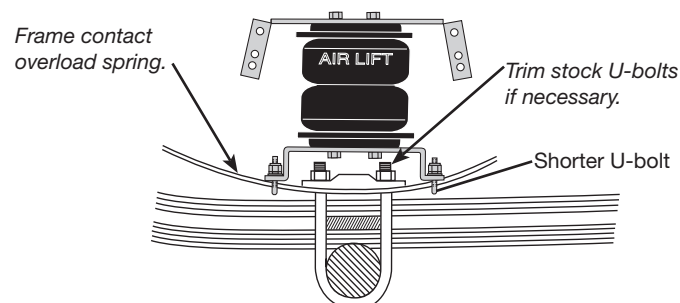

fig. 9
2. If the spacer is used, place the spacers legs down on the leaf spring and attach the lower bracket securely using the provided U-bolts, flat washers, and lock nuts. Torque nuts to 16 lb.-ft. (22Nm) (fig. 9).
*Use shorter U-bolts when attaching to frame contact overload springs (fig. 9).*